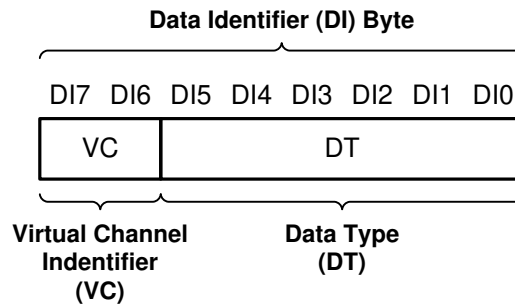

Figure 32. CSI-2 Data Identifier Structure
The DS90UB940-Q1 MIPI CSI-2 protocol interface transmits the data identifier byte containing the values for the virtual channel ID (VC) and data type (DT) for the application specific payload data, as shown in Figure 32. The virtual channel ID is contained in the two MSBs of the data identifier byte and identify the data as directed to one of four virtual channels. The value of the data type is contained in the 6 LSBs of the data identifier byte.